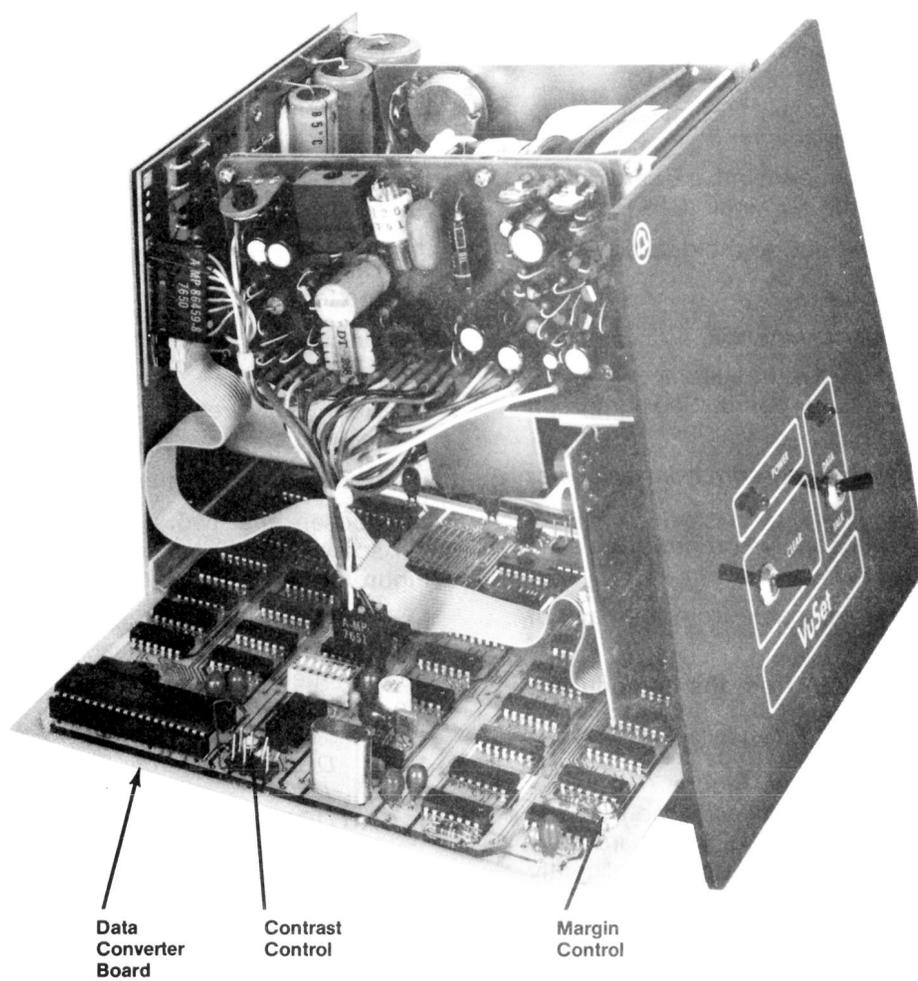

Figure 6, Removal of Data Converter Board
- e) The data converter board can be removed by sliding it out of the card guide from the left side of the terminal (See Figure 6). The opposite side is restricted for data converter removal because of the wiring between subassemblies.
- a) Slide the data converter board into the card guides from the left side of the terminal. (See Figure 6)
- c) Connect J3B to the data converter board. (See Figure 6)
Margin Control Adjustment (Figure 6)
- d) If data is correct and can be centered by using the margin control (See Figure 6) or if the symptoms are now different, the original data converter board has malfunctioned.